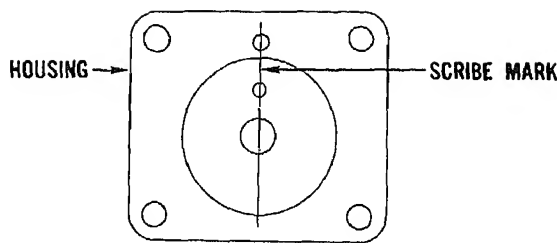

Fig. 507-9. Scribe barrel and housing for alignment
1. The aluminum housing should be lightly scribed as shown in Fig. 507-9. This will facilitate alignment of the fuel vent hole of the housing and the vent hole in the new barrel to be installed.
4. Scribe the new replacement governor barrel as shown in Fig. 507-9. Scribe line should pass through the center of the plunger bore and the center of the $\frac{1}{8}$ in. diameter fuel vent hole.